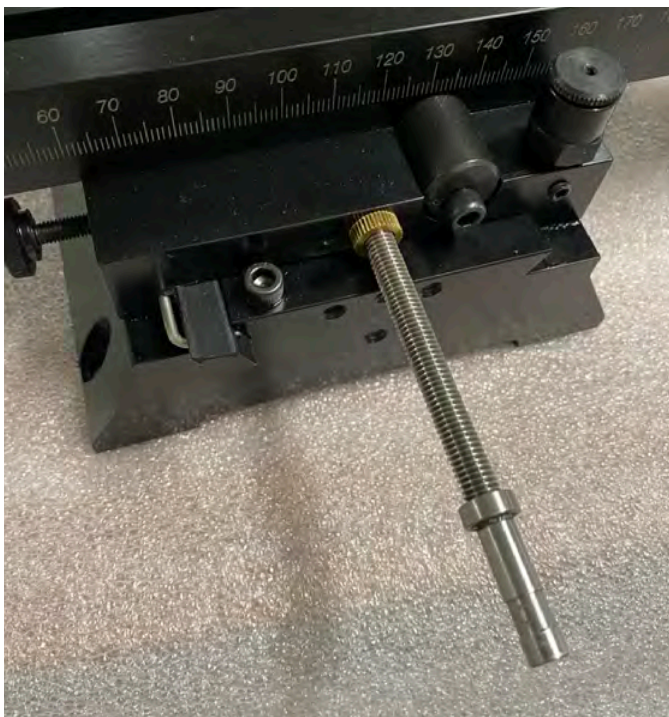

FIGURE 9
- J. Now pull the saddle up close to the end of the base (see Figure 9).